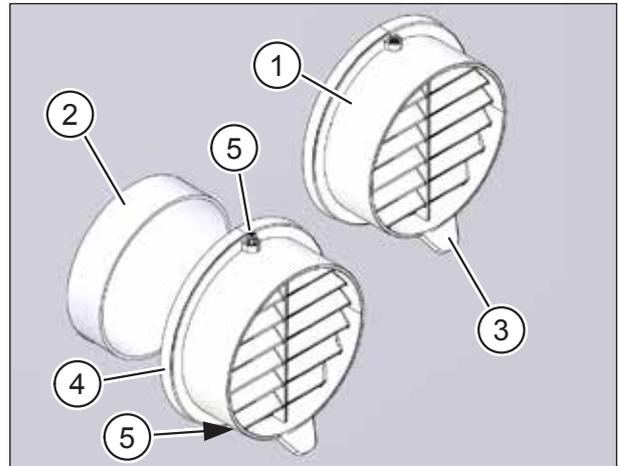

Fig. 14: Attaching the outer wall terminals
- ▶ Carefully push the outer wall terminals (item 1 in Fig. 14) onto the ventilation pipes (item 2 in Fig. 14). Be careful not to damage the seals.
- ▶ Direct the drip edges (item 3 in Fig. 14) downwards.
- ▶ Press each outer wall terminal against the outer wall so that the plastic ring (item 4 in Fig. 14) lies flat against the outer wall. Hold the outer wall terminal in this position.
- ▶ Carefully screw the upper and lower Torx screws (item 5 in Fig. 14) in as far as they will go. They will self-tap into the ventilation pipes, thus fixing the outer wall terminal in position.